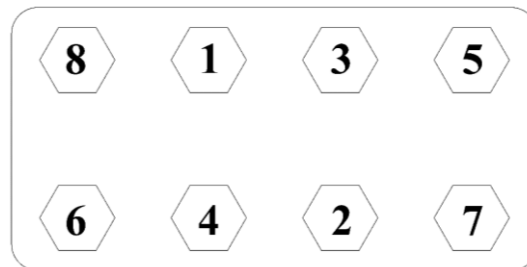

Figure 45 Clamp Plate Torque Sequence for Clamp Plate Nuts
- To be sure that an evenly distributed load is developed on the clamp plate and cylinders, **torque** each nut one half turn in succession. **Using** the 24mm socket (15/16" socket) and a torque wrench, **tighten** each nut according to the sequence in **Figure 45** below until each nut is torqued to 175 ft-lbs (237 N.m).
To avoid component **DAMAGE** and to achieve an even loading of the studs and ring seals, be sure all nuts are tightened evenly in the order specified in *Figure 45* above.